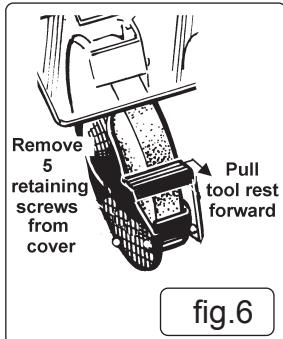

fig.6
- 6.2.2. Loosen and pull the tool rest out as far as possible, but, **DO NOT** remove it (fig 6).
- 6.2.3. Remove the screws from the side of the wheel cover and remove the cover (fig 6).